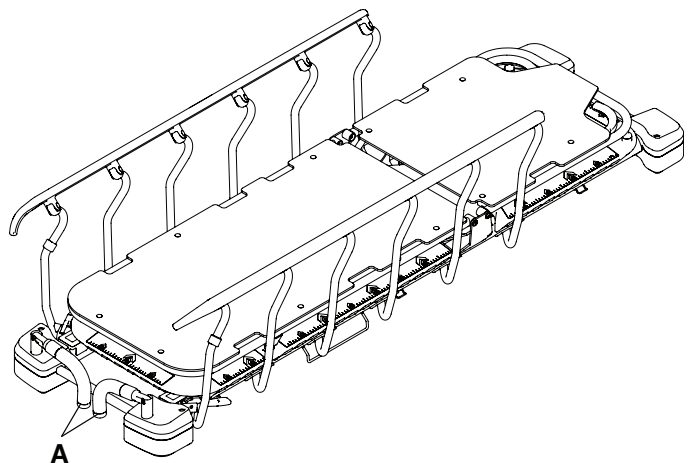

Figure 9 – Stowing the foot end push handles
4. Reverse steps to stow the foot end push handles (A) (Figure 9).